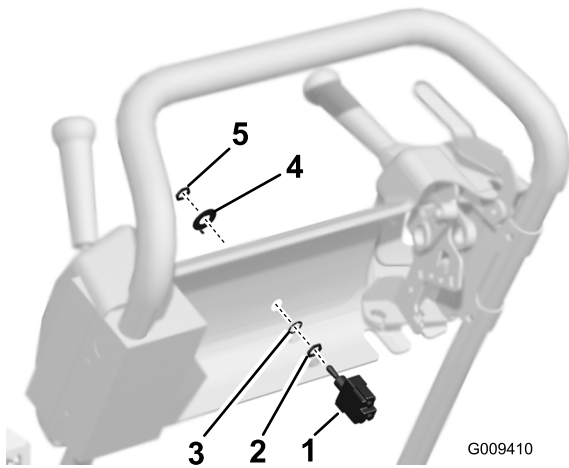

Figure 3
- B. Thread a jam nut onto the switch threads. Also, insert a wave washer onto the switch threads (Figure 3).
- C. From the back of the console, insert the switch into the larger drilled hole (Figure 3).
- D. Slide the new tabbed washer w/decals onto the switch while inserting the tab into the small drilled hole (Figure 3).
- E. Secure the switch and components to the console with the wave washer and (2) jam nuts (Figure 3).